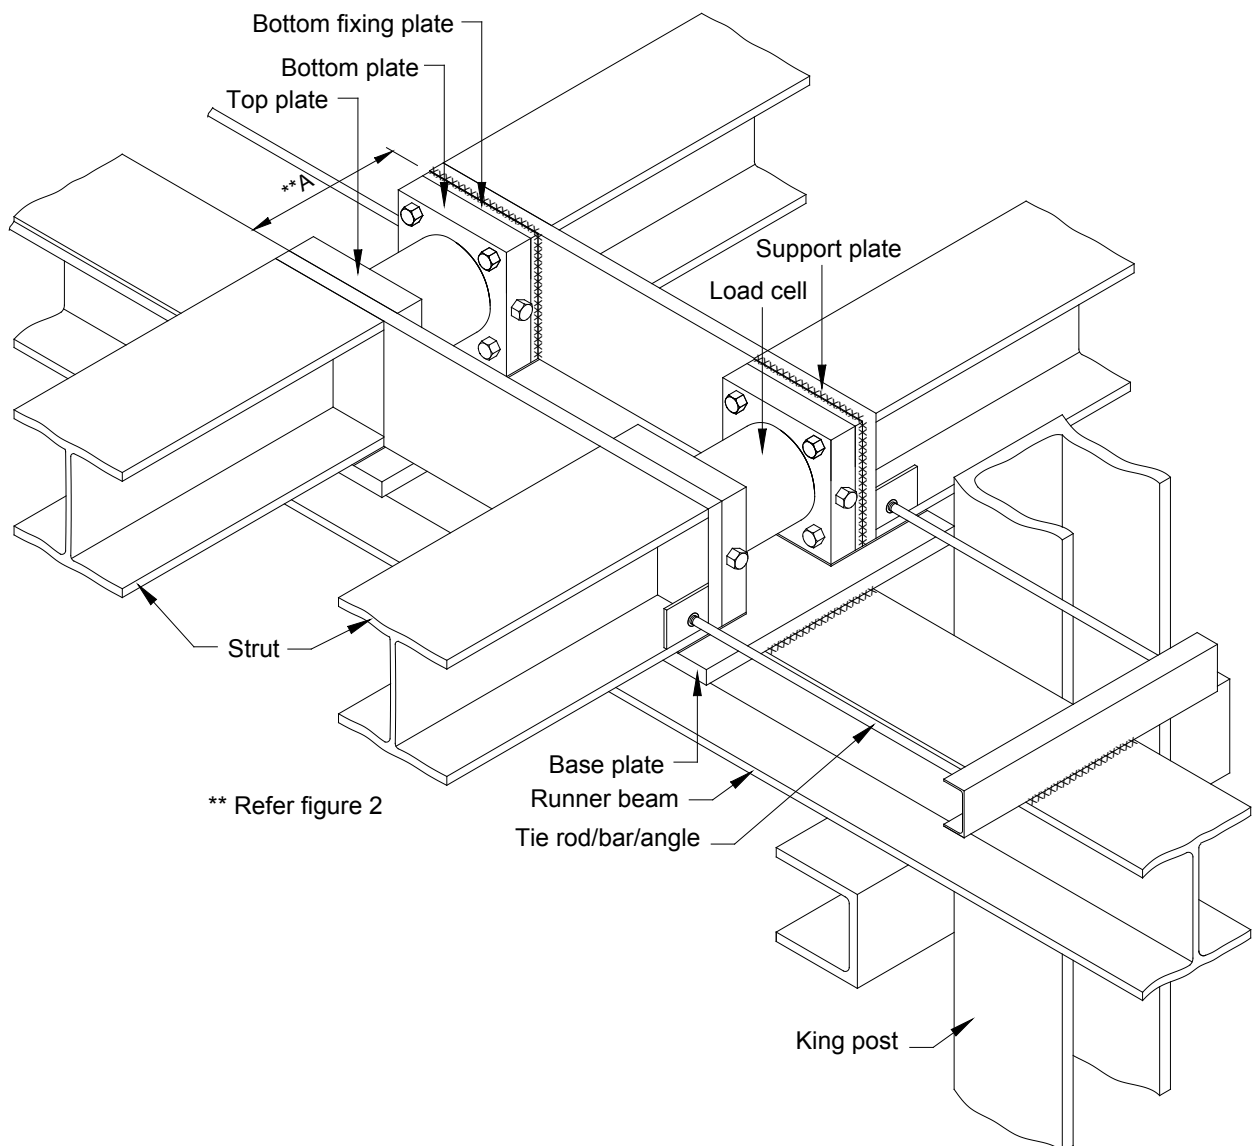

Figure 1
The Encardio-rite model ELC-150S-H series load cell is a heavy duty, high capacity, precision load cell and is ideally suited for measurement of load in struts. Because of no moving parts and mechanical linkages the load measurement system using the load cell is stable. The load cells are temperature compensated reducing the effect of temperature variation. Besides load cell, the measurement system includes stay rods, top and bottom mounting plates, junction box, cable, switch box and a readout unit. A typical mounting scheme for struts is shown in figure 1. Dimensional details of the load cell assembly are provided in figure 2. For wiring details, refer to figure 3.
- 4.2.1 Struts contractor to prepare struts for mounting the load cells. Weld two base plates around 500 mm x 300 mm x 25 mm on runner beam as shown in figure 1. These will support the struts over the runner beam at the location where the load cells have to be mounted. The faces of the struts have to be provided with support plates for mounting of load cells.